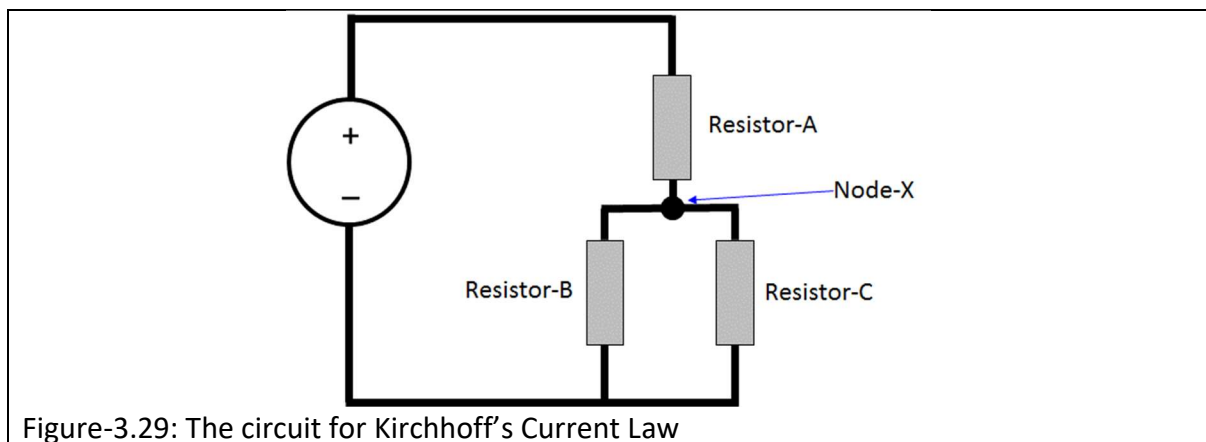
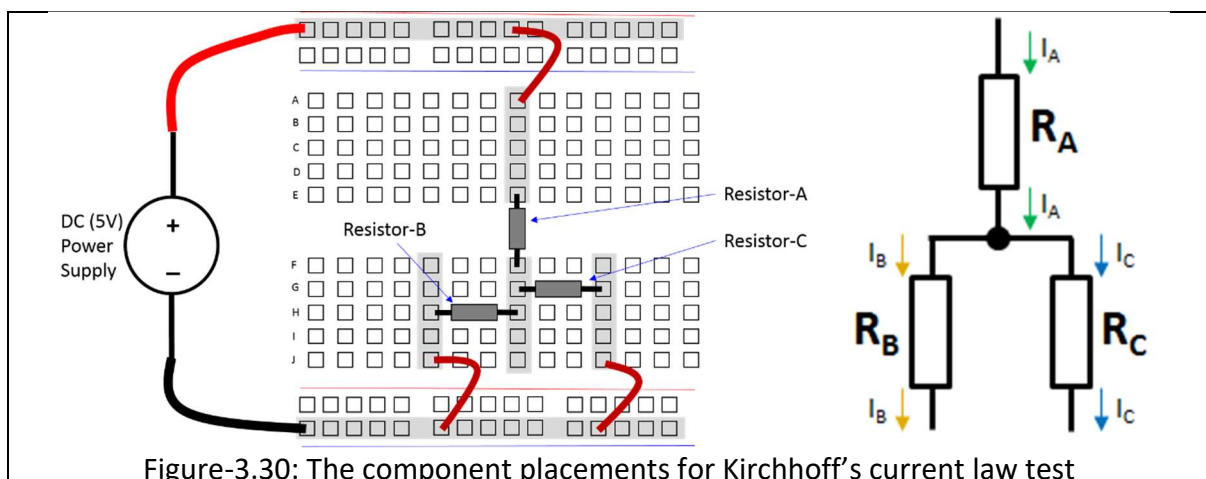

Figure-3.29: The circuit for Kirchhoff's Current Law
Figure-3.30: The component placements for Kirchhoff's current law test
1. Power OFF the power supply. Build the circuit in Figure-3.29 on the breadboard as shown in Figure-3.30.